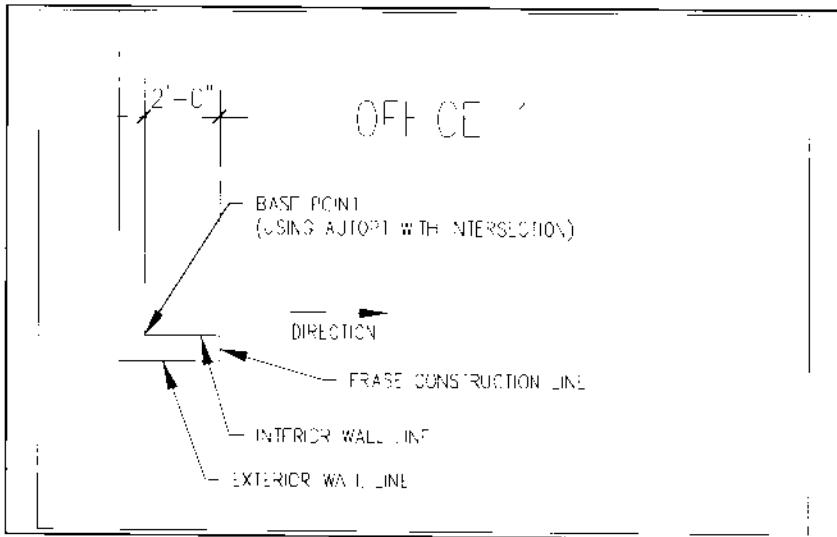

Figure 29.
6. Zoom into OFFICE-1 to create two wing walls along the face of the building. Draw a construction line using the AutoPt command that extends 2' from the interior vertical wall line to the left front exterior wall as shown in Figure 29. Do the same for the right side of OFFICE-1. Trim both front horizontal wall lines to your construction lines, then erase the construction line.
- > To point: PER to [perpendicular to the front exterior wall as shown in Figure 29]